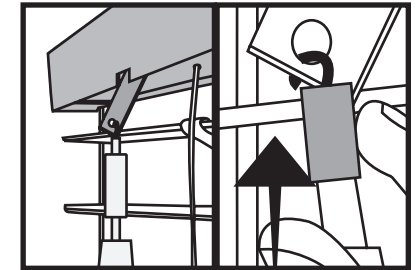

Figure 3; Hook Wand onto Tilt Stem Figure 3.1; Push up Retaining Sleeve
Mount your SMART WAND™ (A) [Fig. 3] by connecting or inserting the SMART WAND’S™ slat ATTACHMENT HOOK (a) to your blind’s tilt gear stem. Carefully push up the plastic RETAINING SLEEVE (c), [Fig. 3.1] to secure the connection. Now rotate the SMART WAND™ (A) until the two SENSOR SWITCHES (d) & (e) are in front or facing into the room.